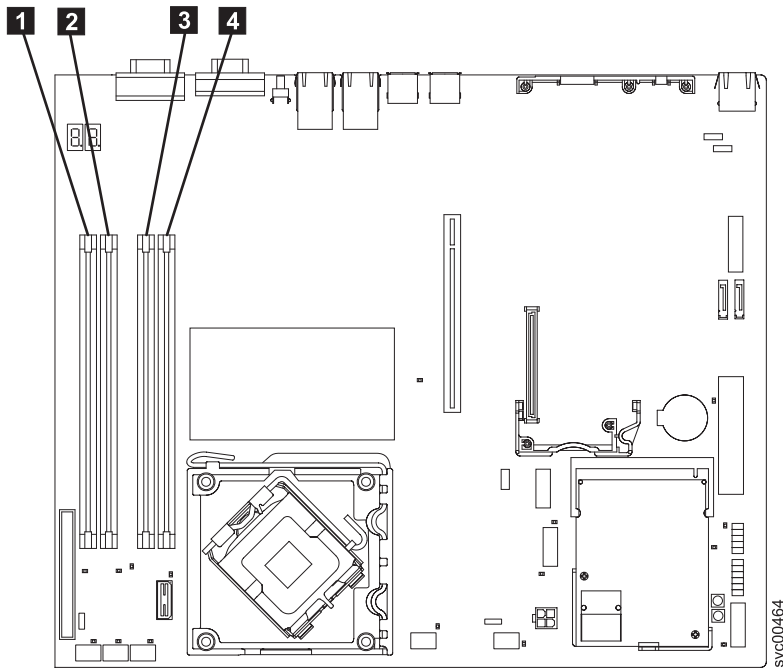

Figure 96. Locating the SAN Volume Controller 2145-8A4 memory modules
- SAN Volume Controller 2145-8A4: These modules are numbered **1** through **4**, as shown in Figure 96 on page 96.